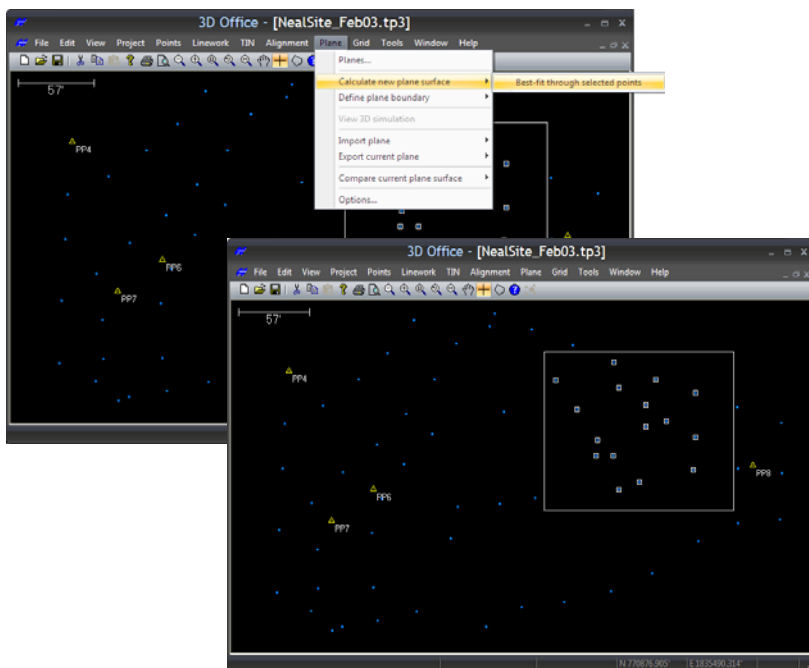

Figure 7-5. Import and Select Points, then Calculate Surface
1. If needed, import points into a 3D Project file. Select the desired points from which to create a plane surface (Figure 7-5).
2. Click **Plane ► Calculate new plane surface ► Best fit through selected points**. 3D office calculates a plane surface and applies a boundary (Figure 7-5).